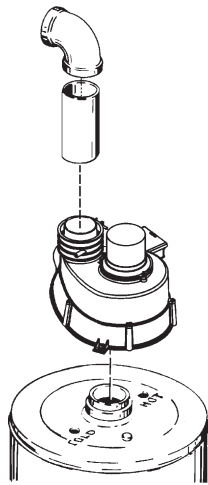

FIGURE 18.
1. Layout the total vent system to use a minimum of vent pipe and elbows. Take into consideration that an elbow will be necessary to make the first vent pipe connection to the power venter outlet, see Figure 18.
2. This water heater is capable of venting the flue gases the equivalent of thirty (30) feet of 3 inch pipe or one-hundred (100) feet of 4 inch pipe as listed in Table 6.
5. The blower discharge boot is made to accept only straight sections of 3" pipe. To start off with an elbow, a short section of the furnished pipe, a minimum of 2 inches, must be cut and glued into the end of the elbow that will mount on the discharge boot, see Figure 18.